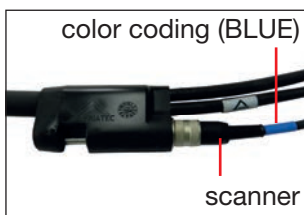

Figure 2
- Connect the scanner cable with color coding (BLUE) with the connector of the fusion cable without adaptor (Figure 2).